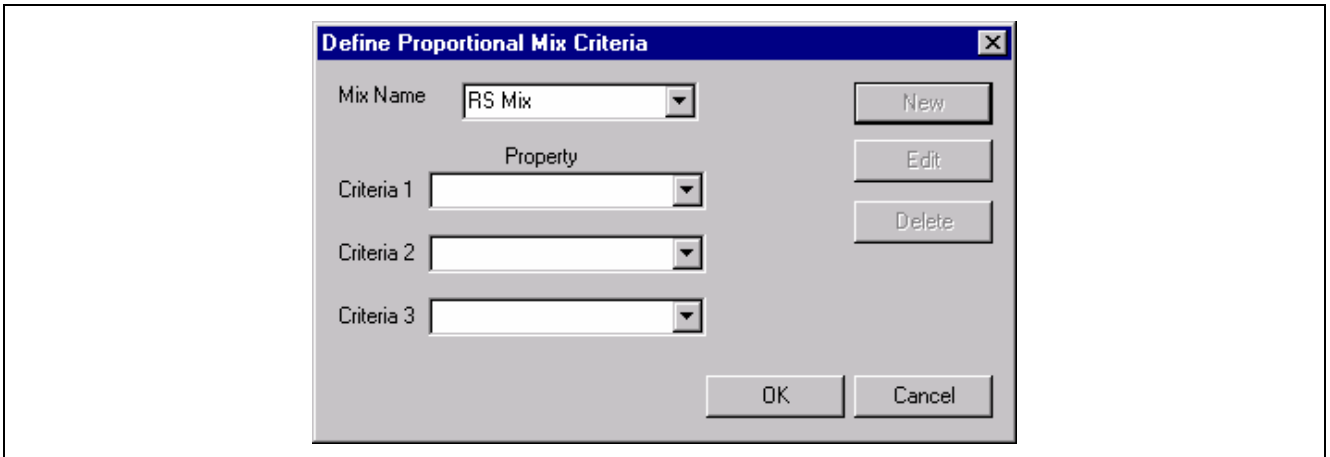

Fig. 6-26 Define Proportional Mix Criteria, Screen II
8.1 Select New. "New Mix Criteria" will appear. Highlight it and type in the name "RS Mix", followed by selecting OK (Fig. 6-26).